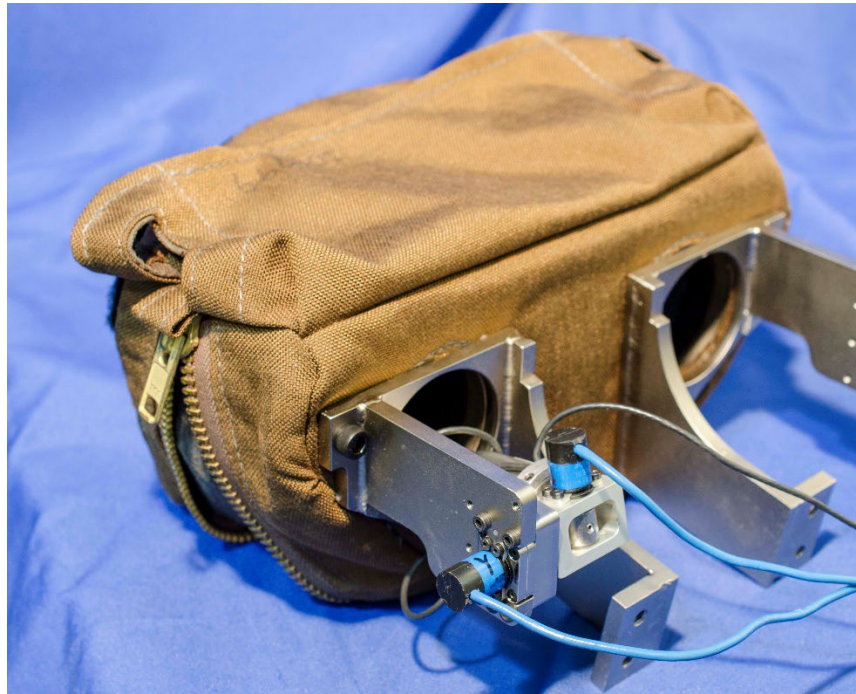

Figure 9-19. Install potentiometer cover to bracket weld assembly
9.2.2.16 Install three M3 x 0.5 x 20 SHCS to hold the Potentiometer Cover (472-4760) to the left attach bracket weld assembly (Figure 9-19).